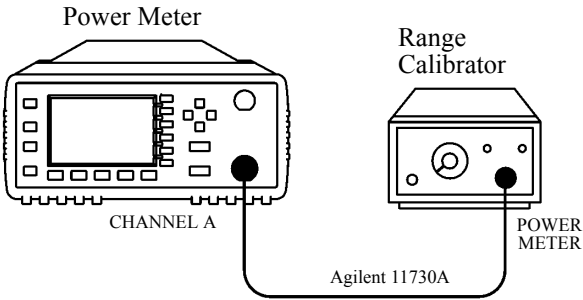

Figure 2-1: Zero Test Setup
- 1. Connect the equipment as shown in Figure 2-1.